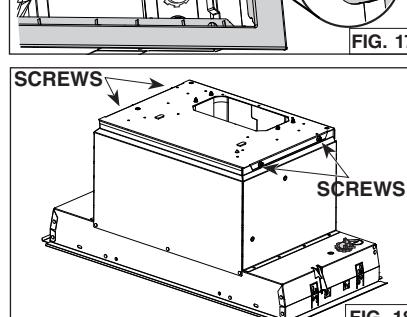

FIG. 18
7. Remove the 4 screws (two per side) retaining the blower support plate to the top of the unit (FIG. 18). Carefully lift out and set aside the blower with its support plate. The blower will be reinstalled later in the unit.